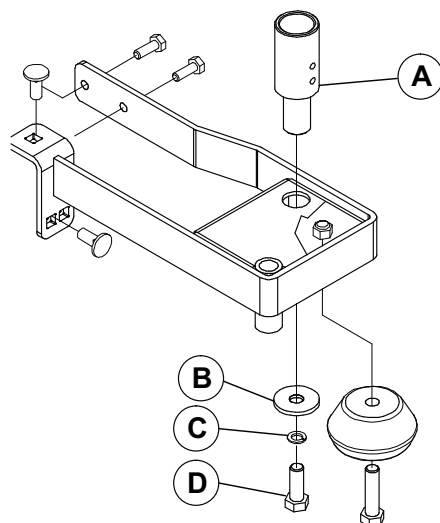

Figure 18 – Fixed socket
9. Using a 9/16" combination wrench, remove the bolt (D), washer (C), and spacer (B) that secure the fixed socket (A) to the accessory bracket (Figure 18). Save the bolt, washer, and spacer.